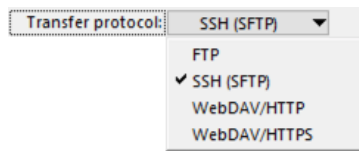

Figure 20. Transport protocols available for use with RT targets.
- ②③ Drop-down control with options for the transfer protocol used to move files to and from the target machine (Figure 20).